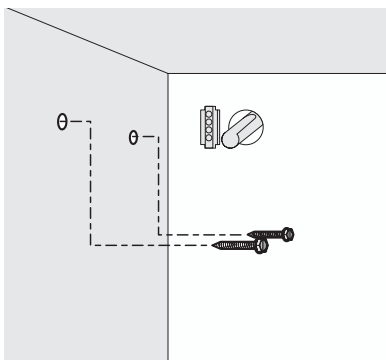

Figure 8
12. Insert 2 long Ice Maker mounting screws into the freezer wall where the plugs were removed in Step 4. Turn each screw clockwise 5 turns (Figure 8).